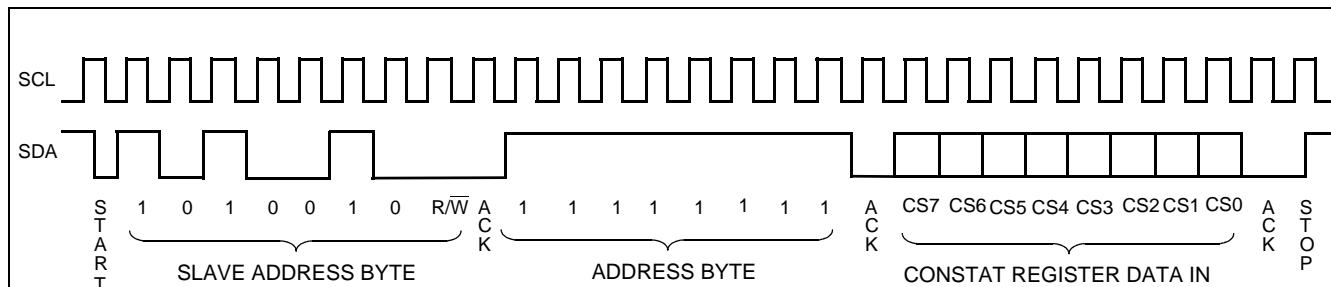

Figure 18. CONSTAT Register Write Command Sequence
Writes to the WEL bit do not cause an internal high voltage write cycle. Therefore, the device is ready for another operation immediately after a STOP condition is executed in the CONSTAT Write command sequence (See Figure 18).
- After a successful write operation to any bits of the CONSTAT register has been completed (See Figure 18).
The CONSTAT register is accessed using the Slave Address set to 1010010 (Refer to Figure 4.). Following the Slave Address Byte, access to the CONSTAT register requires an Address Byte which must be set to FFh. Only one data byte is allowed to be written for each CONSTAT register Write operation. The user must issue a STOP, after sending this byte to the register, to initiate the nonvolatile cycle that stores the BP1, BP0, POR1 and POR0 bits. The X9520 will not ACKNOWLEDGE any data bytes written after the first byte is entered (Refer to Figure 18.).